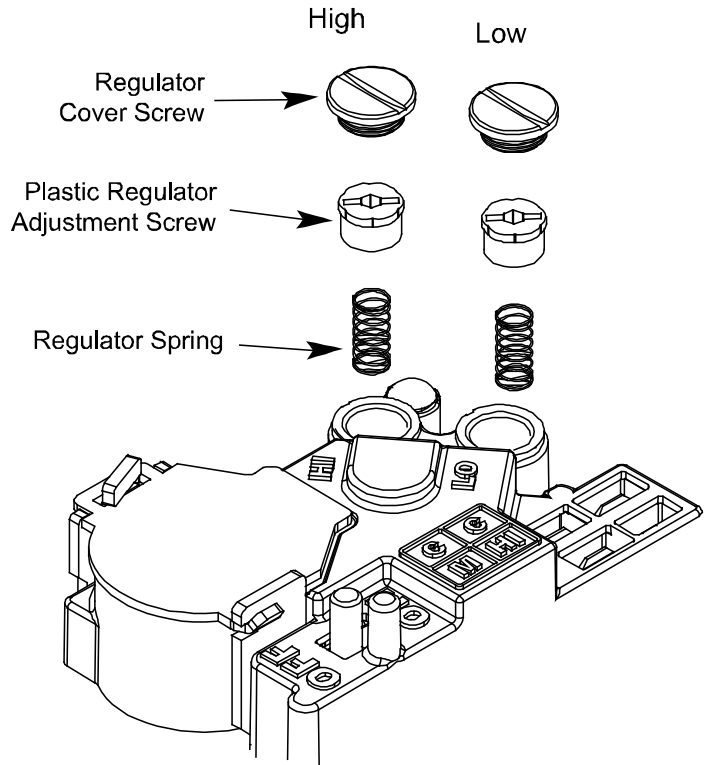

FIGURE 3
- With the furnace operating in its Low-fire (W1) condition, the manifold pressure should be 2 ± 0.3 in. WC. If necessary, this pressure can be adjusted using the gas valve Low regulator adjustment screw located beneath the regulator cover screw (see Figure 3). Turn clockwise to increase and counterclockwise to decrease manifold pressure.
- Readjust the room thermostat to obtain a second stage call for heat – High-fire (W2). The manifold pressure for the W2 condition should be 3.5 ± 0.3 in. WC. If necessary, this pressure can be adjusted using the gas valve High regulator adjustment screw located beneath the regulator cover screw (see Figure 3). Turn clockwise to increase and counterclockwise to decrease manifold pressure.